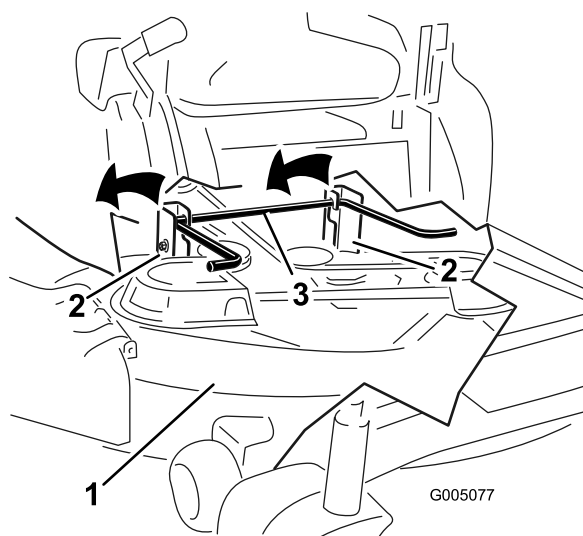

Figure 58
5. Using the mower deck handles, lift the mower deck and hanger brackets clear of the rear lift rod and lower the mower carefully to the ground (Figure 58).
5. Lift the rear of the mower deck and guide the hanger brackets over the rear lift rod (Figure 58).